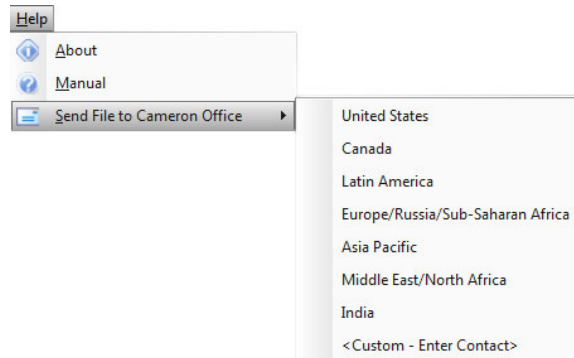

Figure B.1—Help menu
1. Select **Help>Send File to Cameron Office** (Figure B.1) and select the regional office nearest you from the drop-down list provided. A new email window will open with the data file and the associated log file attached and the email address of the selected office pre-entered. If you know the email address of your primary Cameron contact, click on “Custom - Enter Contact” in the dropdown menu and enter the email address in the email window.